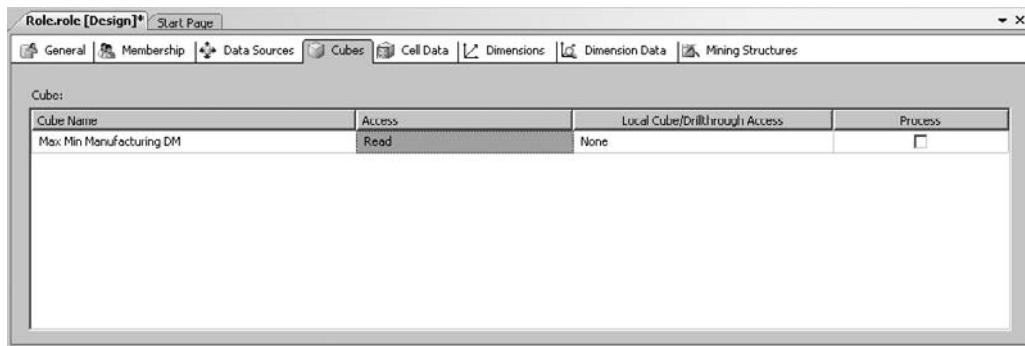

Figure 11-23 The Cubes page of the Role Design tab
9. Select the Cubes tab. Select Read from the Access drop-down list for the Max Min Manufacturing DM cube. We do not need to allow drillthrough or rights to process this cube, so do not make any changes to these two items. The Cubes page of the Role Design tab is shown in Figure 11-23.